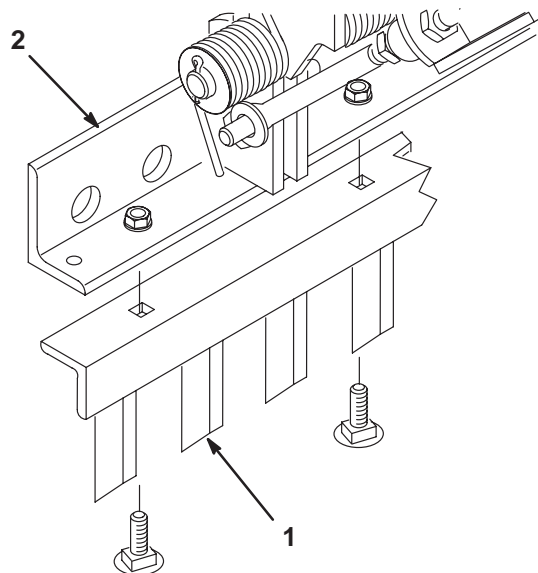

Figure 7
7. You can mount the scarifier bar to the angle assembly in place of the sweeps to break up the hard ground or to provide a less aggressive cultivation tool for a sand trap (Fig. 7).